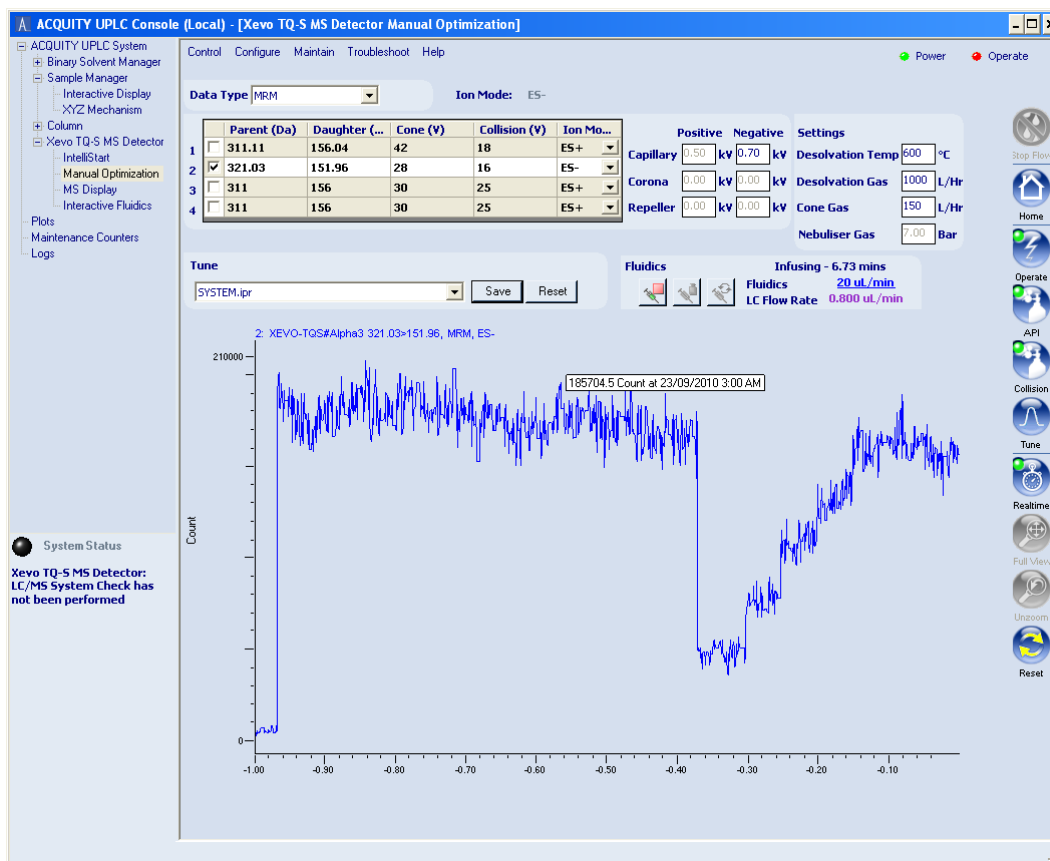

Figure 28 - Manual Optimization dialog
- a. In the MS console, click **Manual Optimization** to access the Manual Optimization dialog (Figure 28).